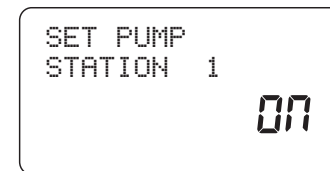

Figure 21: Display - Pump Start active for station 1
- Press the **RAIN DELAY** button once. [See Figure 21]